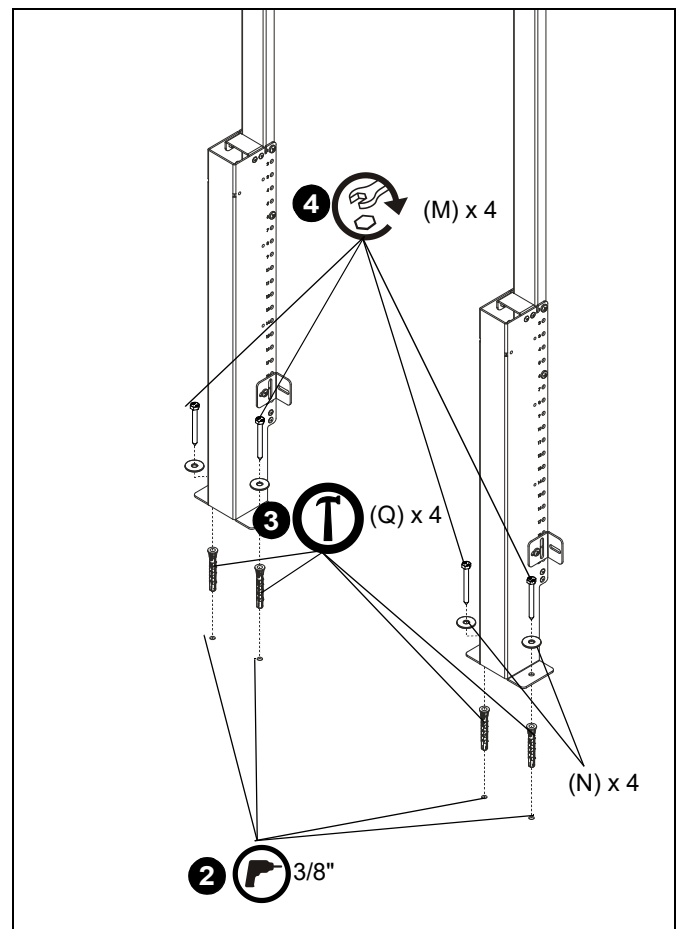

Figure 5
1. Position assembled stand against wall at desired mounting location and mark hole locations at each mounting location. (See Figure 5)
2. Remove stand from location and drill 5/16" holes with a depth of 2 3/8" (60mm) on marked hole locations. (See Figure 5)
3. Use hammer to install four concrete anchors (Q) into drilled holes. (See Figure 5)
4. Use four 1/4-20 x 2 1/2" hex head lag screws (M) and four 1/4" washers to secure wall brackets (F) to floor. (See Figure 5)